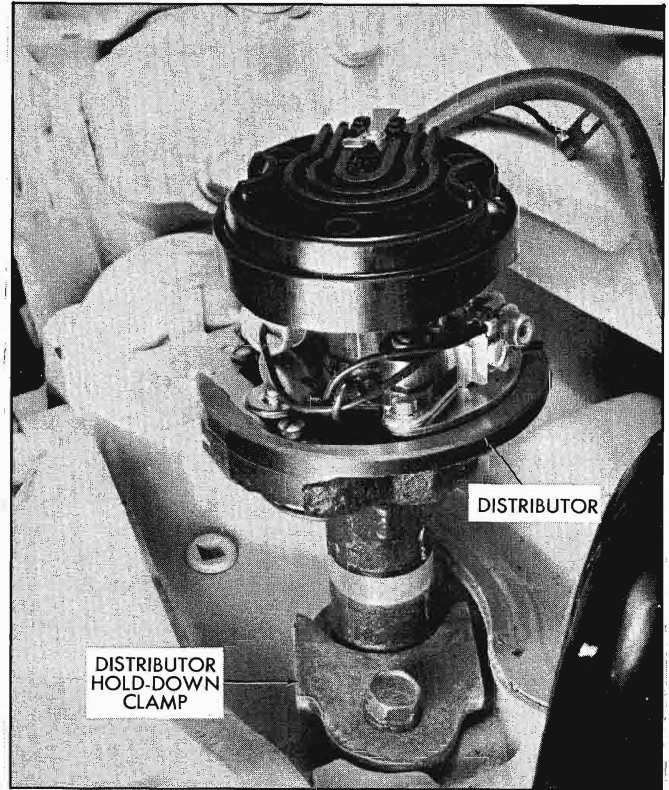

Fig. 6-76 Distributor Hold-Down Clamp
- e. Remove distributor hold down clamp (Fig. 6-76).